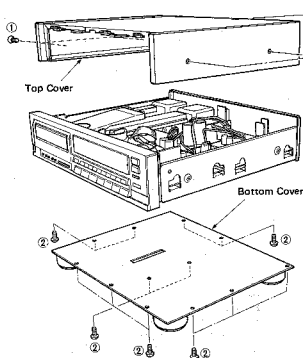

Fig. 1
Remove 5 screws (①) in Fig. 1, and then slide the Top Cover to back side.
Remove 12 screws (②) in Fig. 1.